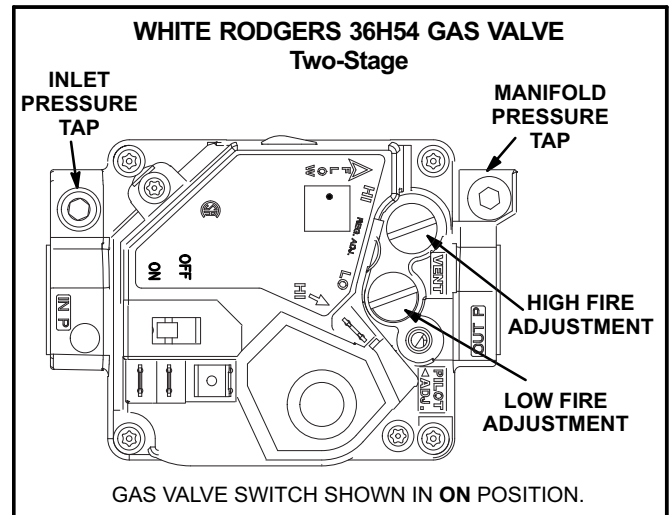

FIGURE 31
Gas Valve Operation for Honeywell VR8205Q / VR8305Q and White Rodgers 36H54 (figure 31)
- 5- Turn gas valve switch to **OFF**. See figure 31.
- 6- Wait five (5) minutes to clear out any gas. If you then smell gas, **STOP!** Immediately call your gas supplier from a neighbor's phone. Follow the gas supplier's instructions. If you do not smell gas, go to the next step.
- 7- Turn gas valve switch to **ON**. See figure 31.